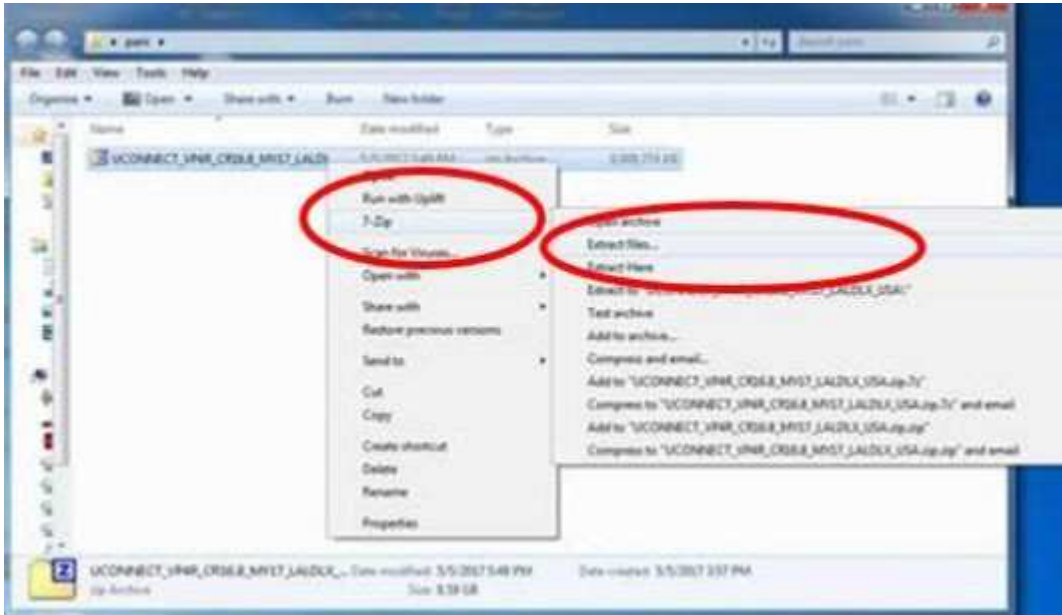

Fig. 4
8. Extract the downloaded zip file to the designated USB flash drive (Fig. 4) and (Fig. 5) .